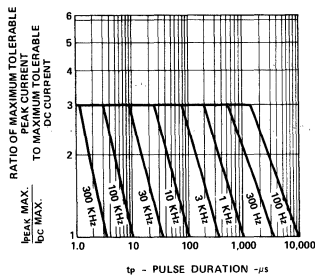

Figure 5. Maximum Tolerable Peak Current vs. Pulse Duration. (I_{DC} MAX as per MAX Ratings)
- See Figure 5 (Red), 10 (Yellow), or 15 (Green) to establish pulsed operating conditions.